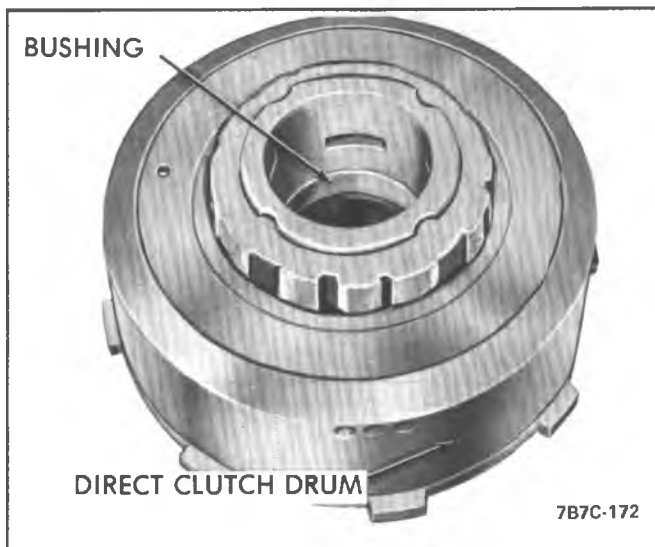

Figure 7A3-181 Removing Direct Clutch Bushing
2. Install direct clutch bushing using Tool J-123062-14, Drive Handle J-18092, and install .010" below slot in retainer hub. See Figure 7A3-182.